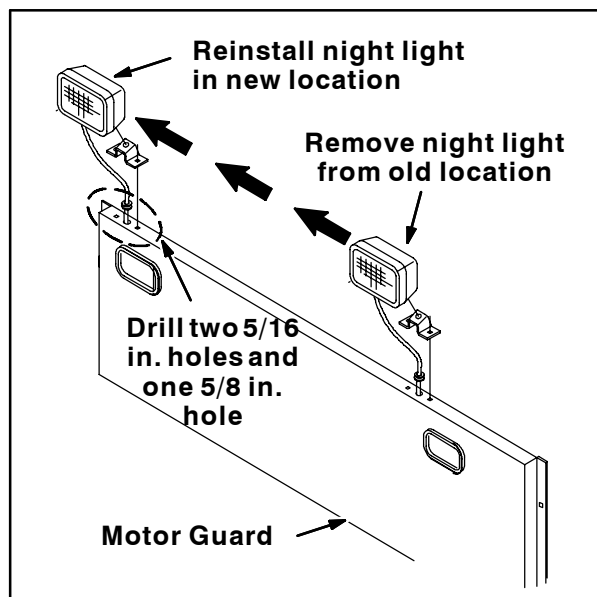
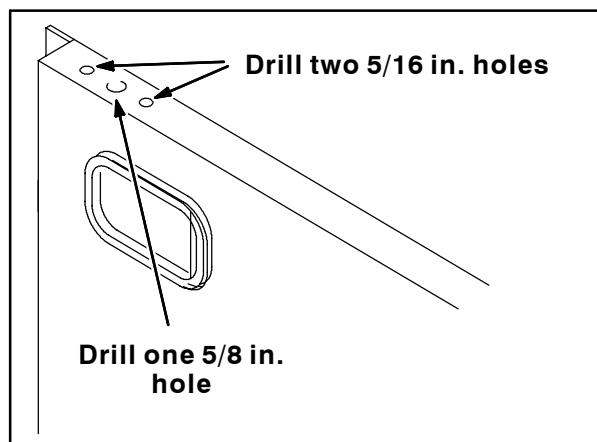

FIG. 31
FIG. 32
56. Disconnect the hopper harness from the night light and remove the night light from the motor guard. Set the light and hardware aside. Refer to Fig. 31.
57. Hold the night light bracket onto the motor guard (as a template) and drill two 5/16 in. holes through the holes in the bracket and into the motor guard. Remove the night light guard and drill a 5/8 in. hole between the two 5/16 in. holes. Refer to Fig. 31 and Fig. 32.
58. Reinstall the night light onto the new location on the motor guard. Route the night light cable through the center hole drilled into the motor guard. Refer to Fig. 31 and Fig. 32.